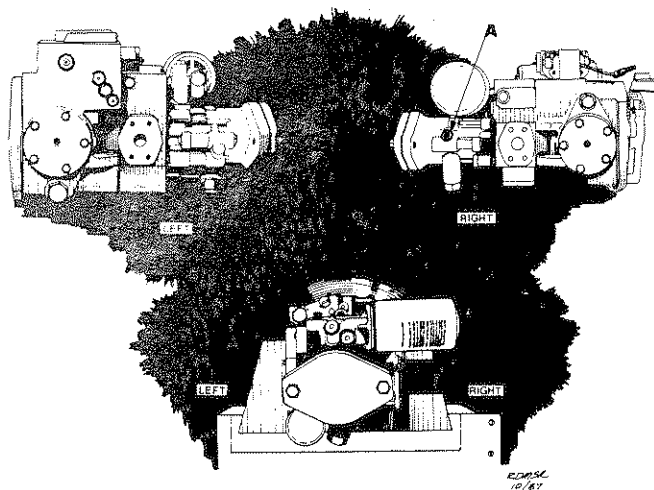

Fig. 52
2. Remove the 1/4 inch JIC cap on gauge port "A", see Fig. 52.